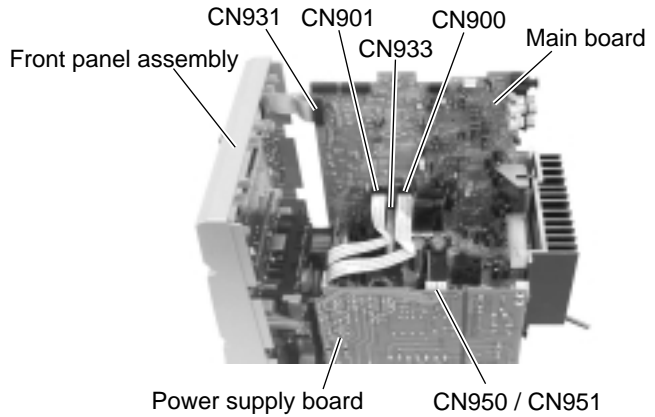

Fig.13
**■ Removing the power amplifier board / power amplifier sub board / main board / heat sink (See Fig.13 to 21)**